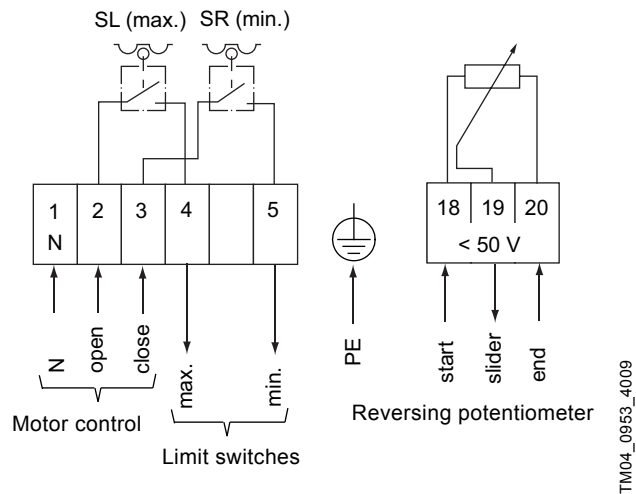

Fig. 11 Terminal connection diagram for servomotor with reversing potentiometer
2. Establish the electrical connections in accordance with the circuit diagram; see Fig. 11.